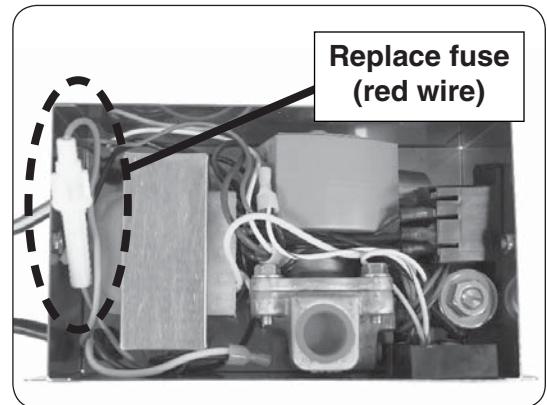

Fig. 45-2 Replace fuse
5. "Push in and twist" the fuse holder (red wire), exposing the fuse (see Fig. 45-2).